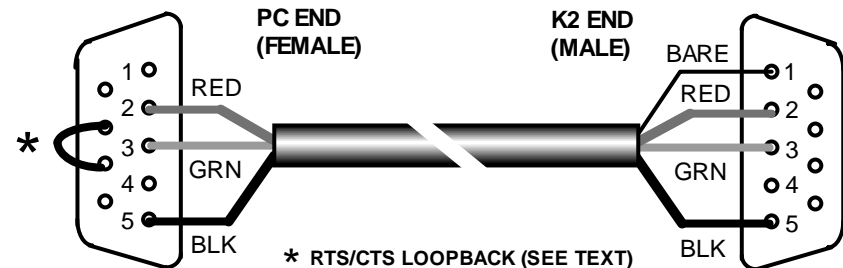

Figure 42
- Locate the DB9F (female) and DB9M (male) connectors. Arrange them as shown in Figure 42 (male connector on the right, solder cups facing up). Make sure the 5-pin rows are facing each other.
- As shown in Figure 42, pins 7 and 8 of the female connector can be wired together (using a discarded component lead) to provide RTS/CTS loop-back². Some software requires this *hardware handshaking*. We recommend that you make this connection, unless you're sure that your application software does not need it. Some programs use these lines for CW keying, etc.
- Solder the RED, GREEN, and BLACK wires of the PC end of the cable (the end with no shield wire) to the female connector. Refer to Figure 42.